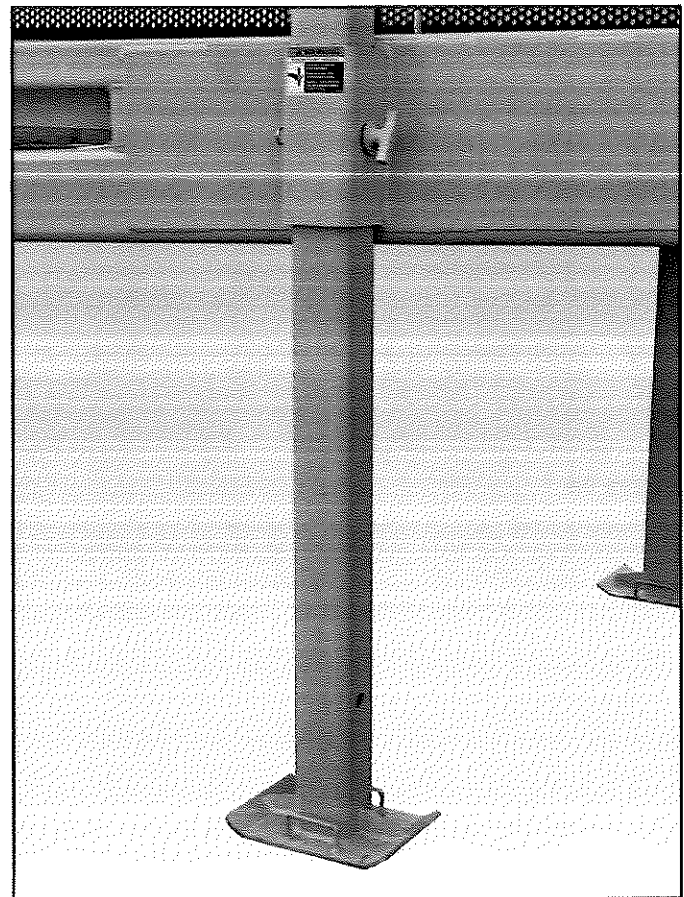

Figure 101
3. Raise conveyor enough to pin landing legs into transport position (Figure 101).